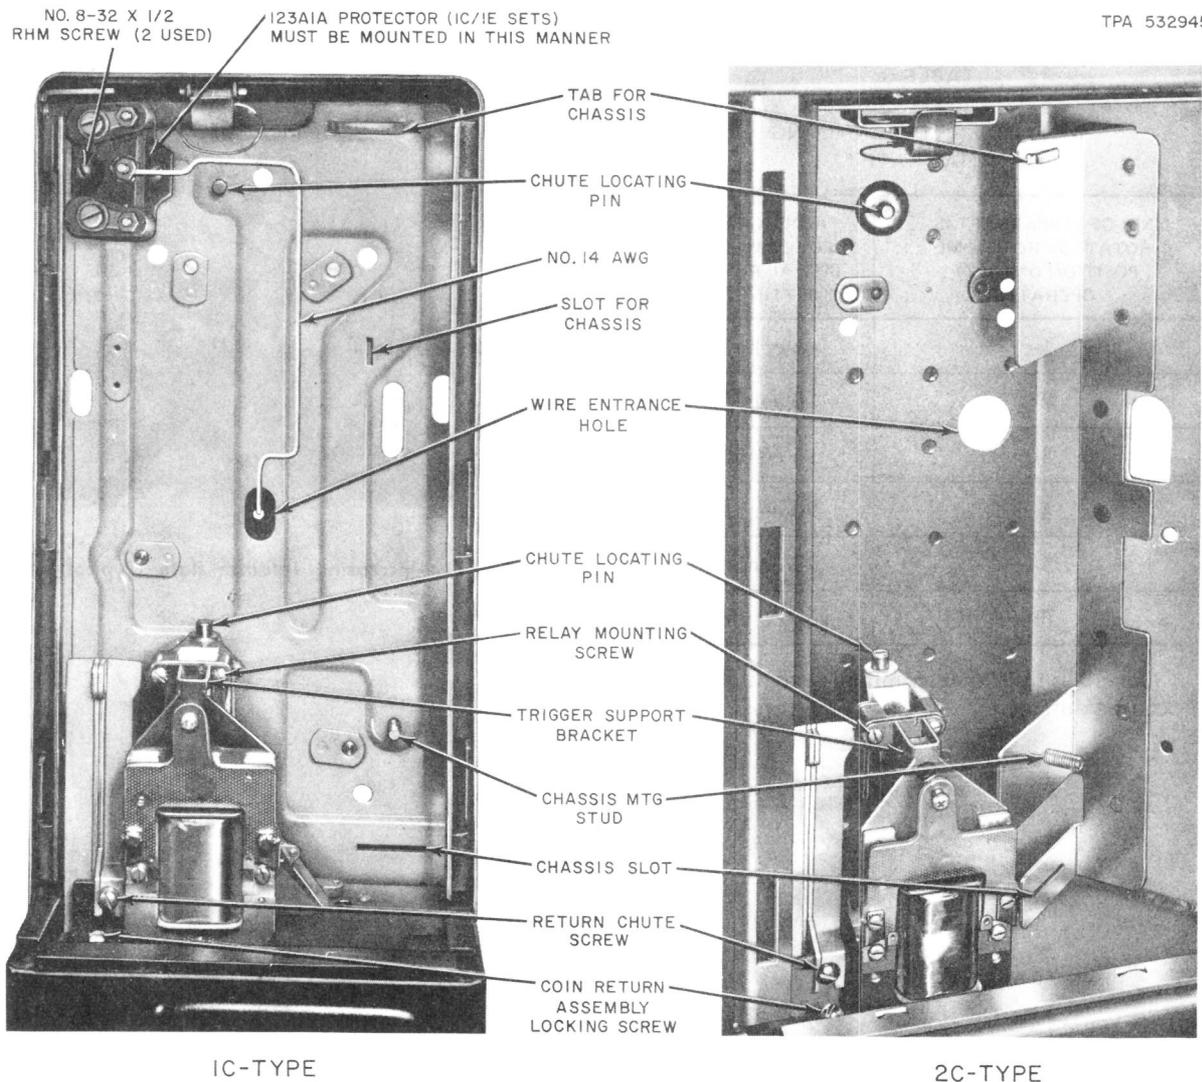

Fig. 9—Housing and Mounting Plate Assembly
- (1) Place chute on locating pins at rear of hopper assembly, and back of housing (Fig. 9).
- (1) Slide chassis under tab (Fig. 9).
- (2) Seat chassis tabs in slots.
- (3) Tighten chassis mounting captive screw.
- (4) On 1A/2A/1C/2C-type sets, thread (BK) and (Y) leads through eyelet on side of hopper.
- Connect (BK) lead to terminal 3 on coin relay
- Connect (Y) lead to terminal G on coin relay.
- (5) On the 1E1 set, thread (S-R) and (G) leads through eyelet on side of hopper.
- Connect (G) lead to right side of resistor on 50A hopper or terminal 8 on 51A hopper.
- (6) On 1E3 set, tie the (S-R) and (G) leads together using a D-161488 connector. Ensure that connector is insulated.